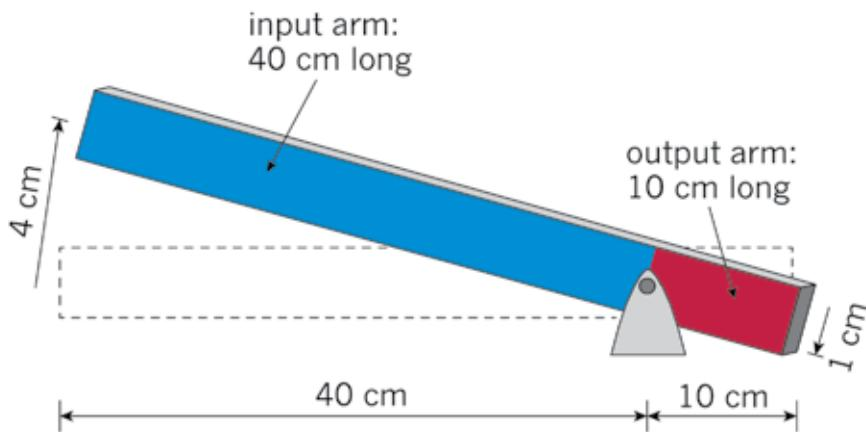

Figure 2: This lever has two arms: an input arm in blue and an output arm in red.
Look at the lever in Figure 2. This lever is making the output force bigger, so you can say that it is giving us a mechanical advantage. There are two “arms” on a lever: the **input arm** and the **output arm**. The lever below shows the input arm in blue and the output arm in red.
- Now you can confirm what you have already worked out. Use the values in Figure 2 to calculate the ratio of the length of the output arm to the length of the input arm.
- Use the values in Figure 2 to calculate the ratio of the output distance to the input distance.